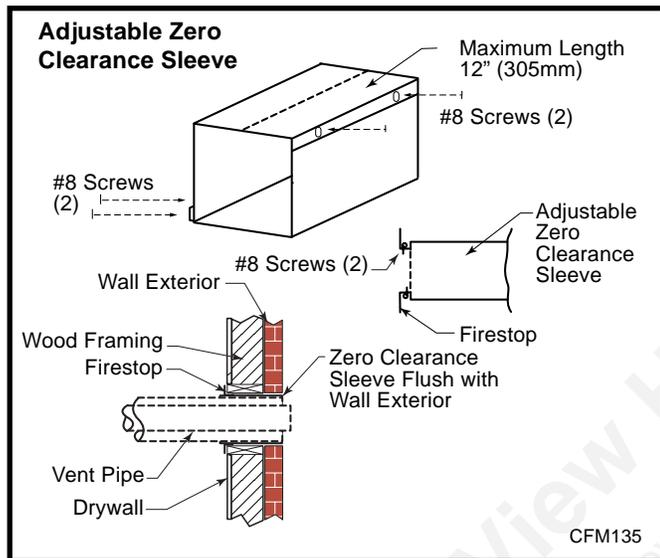

Fig. 23 Locate vent opening on wall.
Measure wall thickness and cut adjustable zero clearance sleeve parts to proper length (MAXIMUM 12" / 305mm). (Fig. 23) Adjust sleeve to minimum (9³/₈" x 9³/₈" and attach to firestop with #8 sheet metal screws (supplied). Assemble sleeve and attach to firestop with #8 sheet metal screws (supplied). Install firestop assembly.
1. Establish vent hole through the wall. (Fig. 23)